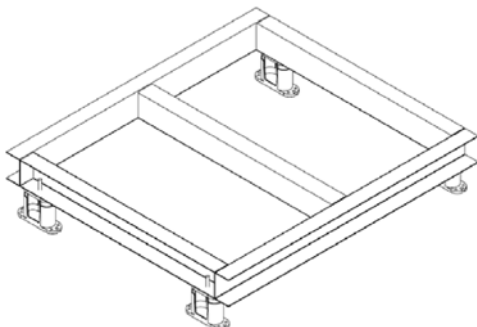

Figure 2
1. If spring mounts are to be used, fabricate a frame to provide support around the entire perimeter of the unit. Allow sufficient clearance for any door or panel access that is required to provide field service or maintenance on the unit. The frame will also need to be designed with suitable cross bracing. (Figure 2)